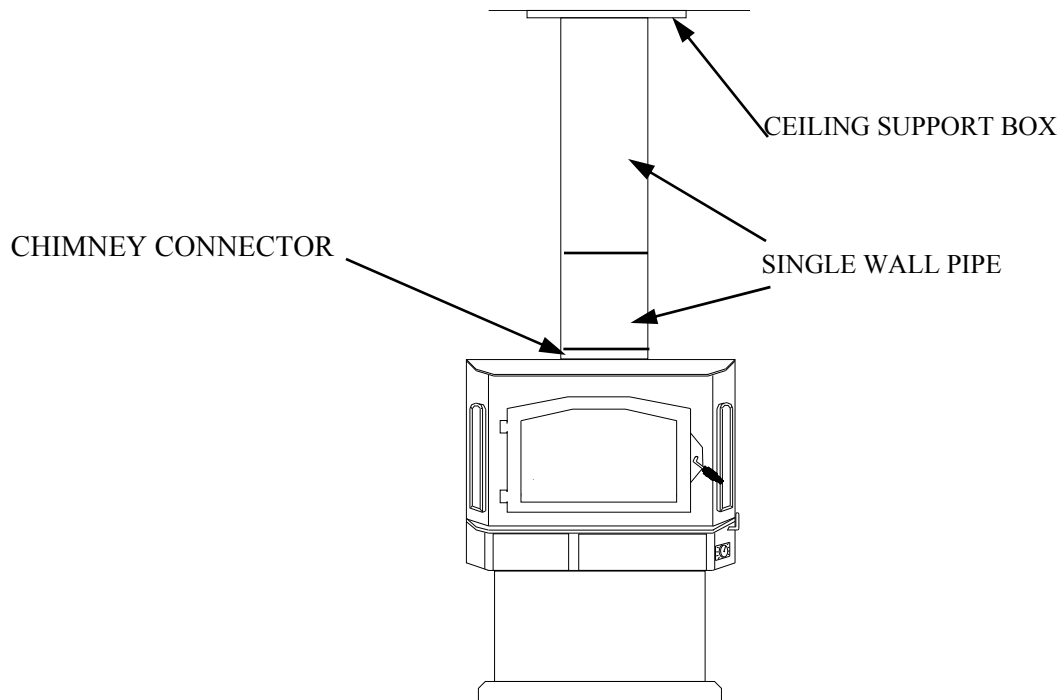

Figure 13
14. Secure outside air duct to inside bottom of pedestal using four (4) #10x1 screws provided. (See Figure 13).
5. Using single wall chimney connector, connect heater to chimney by following manufacturer's installation instructions exactly. (See Figure 13).